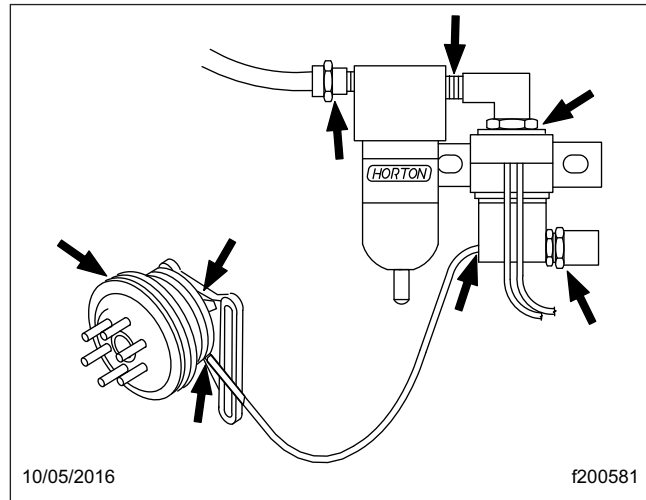

Fig. 10, Checking for Air Leaks (Horton DriveMaster)
8. With the air system charged to 120 psi (827 kPa), check the fan clutch for audible air leaks, using a suitable listening device. Check at the solenoid valve, the air filter assembly, and the air hoses and fittings. See **Fig. 10**. Using a wet finger or a soapy water solution, check for a leak in the same areas.